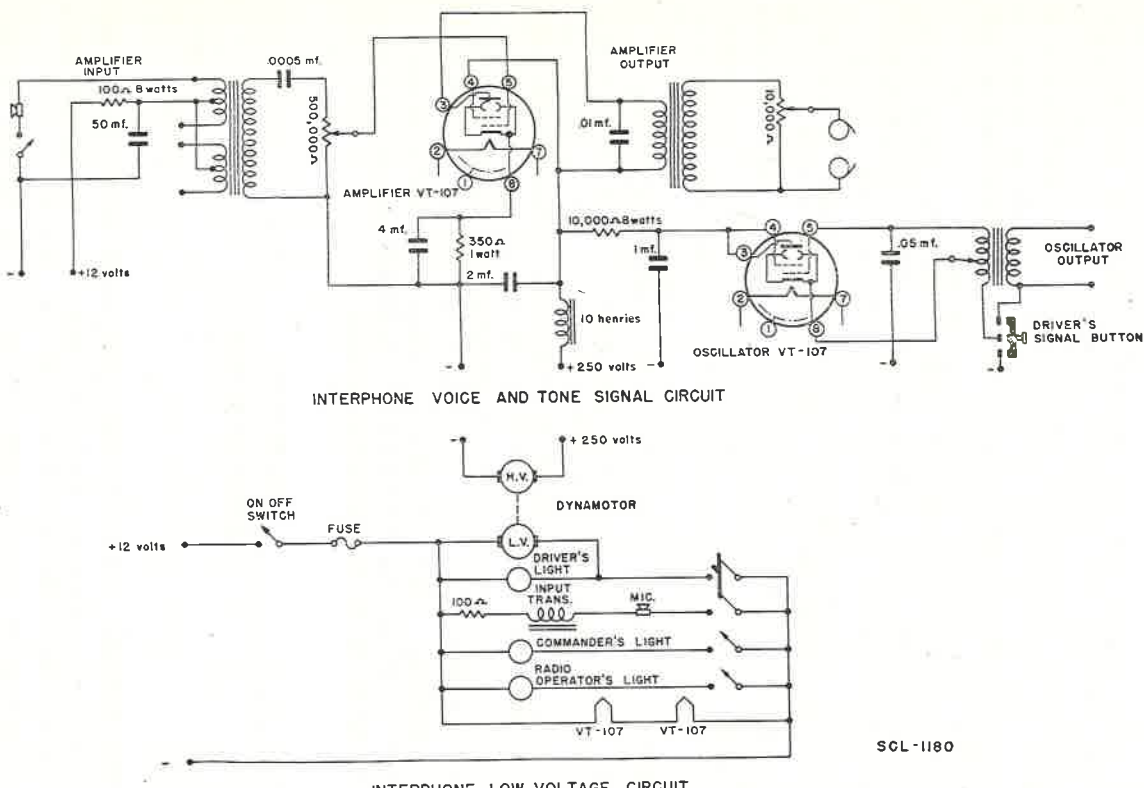

FIGURE 5.—Interphone amplifier BC-367, schematic circuit.
5. Electrical features.—a. Interphone amplifier BC-367.—(1) This unit contains two separate circuits, an oscillator, and an amplifier (fig. 5). The oscillator circuit is used to generate an audio signal of approximately 600 cycles to provide a means for the driver to signal when he wishes to speak to anyone on the radio side of the system. When the driver's push-button switch is pressed, this audio voltage is impressed across the input of the second audio if radio receiver BC-312-() is used, or across the output of other type radio receivers are used. The amplifier is of the transformer-coupled type and provides a maximum output of over 2 watts. The rising fidelity characteristic from 100 cycles to 2,500 cycles (attenuation at lower frequencies) tends to compensate for the poor high-frequency response of microphone T-30-A and to prevent excessive noise pick-up. The input transformer consists of a two-winding primary with each winding center-tapped, and a single-wound secondary. The audio-frequency voltage, after being stepped up by the input transformer, is applied through a potentiometer volume control to the grid of the amplifier tube. The output of this tube appears across the secondary of the output transformer. Various output impedances of this transformer can be obtained by use of the proper tap. The amplifier is shipped with an output impedance of 2,500 ohms in use. The direct-current microphone current is obtained from the car-battery source through a 100-ohm dropping resistor. A 50- μ f, 25-volt, electrolytic capacitor bypasses the audio component of the microphone current through the dropping resistor.